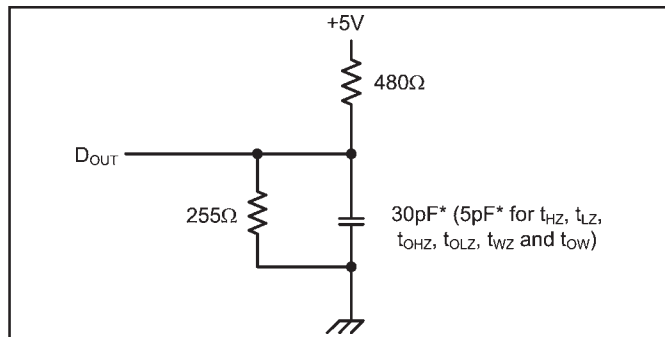

Figure 1. Output Load
- 8. Transition is measured ±200 mV from steady state voltage prior to change, with loading as specified in Figure 1.
Output Load	See Figures 1 and 2